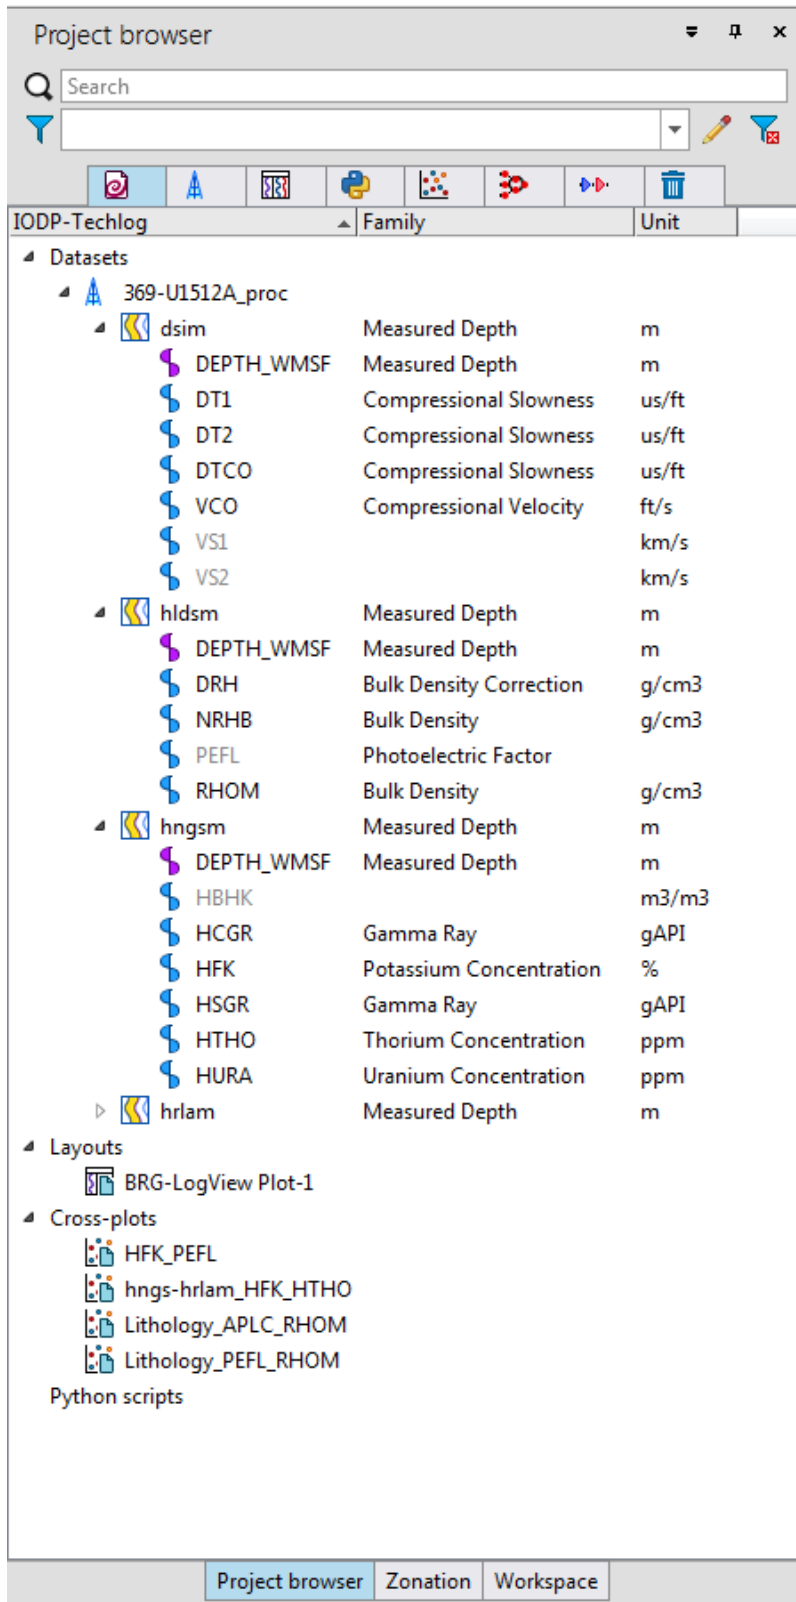

Figure 8: Project Browser panel.
1. In the Project Browser, expand the Dataset by clicking on the triangle next to it on the left (Fig. 8). The data is arranged in a hierarchy, starting with the well (blue derrick frame icon), dataset (yellow curve icon), and variable (blue curve icon).
4. If any of the dataset variables are grayed-out, it implies that either the family assignment or unit is missing (VS1, VS2, PEFL and HBHK in Fig. 8).
1. In the Project Browser panel, expand Layouts (Fig. 8)
1. In the Project Browser panel, expand Cross-plots (Fig. 8)